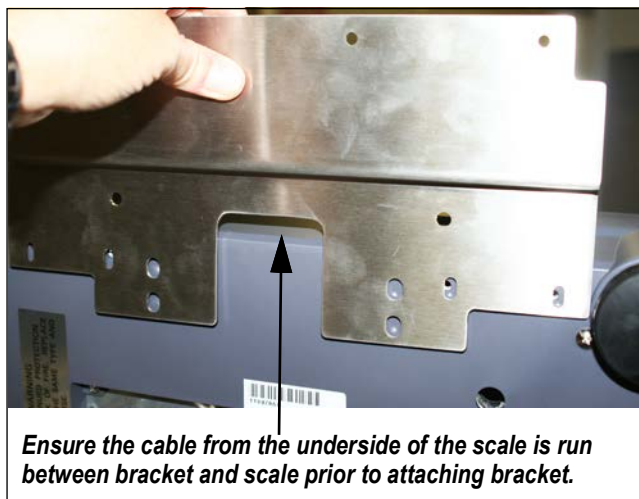
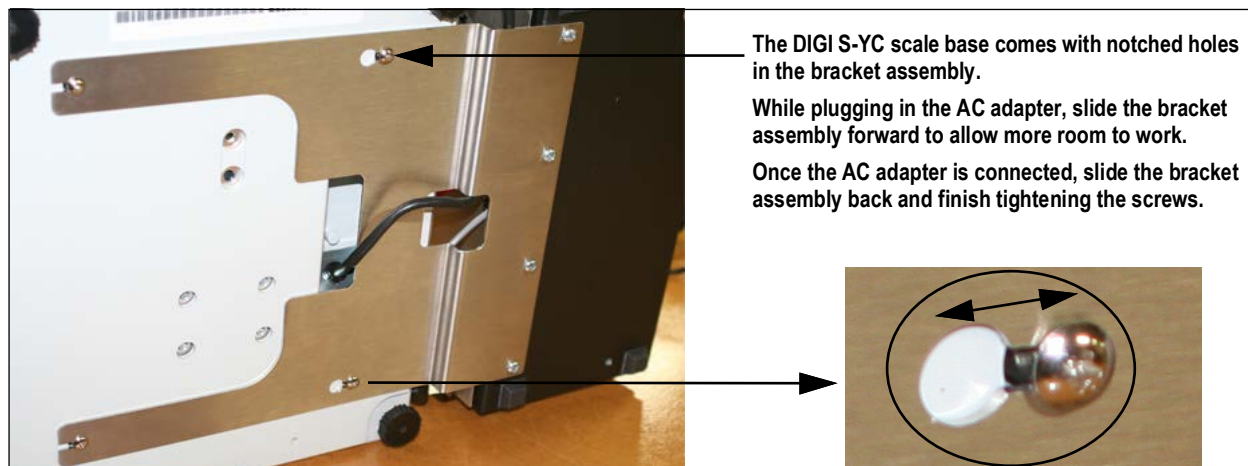

Figure 2-18. Attach Bracket Assembly to Scale Base While Scale Is Tipped on its Side (DIGI S-XL Base Shown)
Figure 2-19. Attach Bracket Assembly to DIGI S-YC Scale Base
2. Ensure the cable underneath the scale base is threaded through the opening between the scale and the bracket, otherwise it will not fit (Figure 2-18 and Figure 2-19).